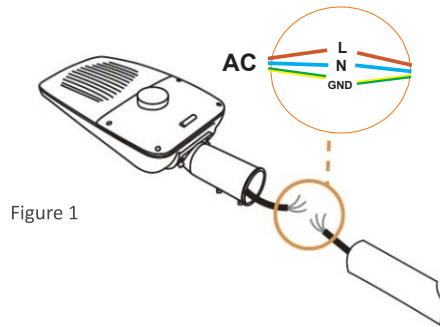

Figure 1
### ① Wiring, as shown in Figure 1.